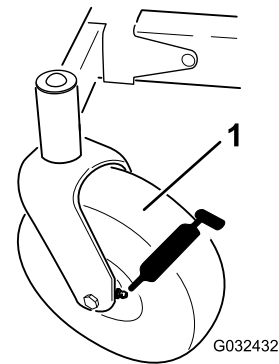

Figure 31
3. Clean the grease fittings (Figure 31) with a rag.
4. Connect a grease gun to each fitting (Figure 31).